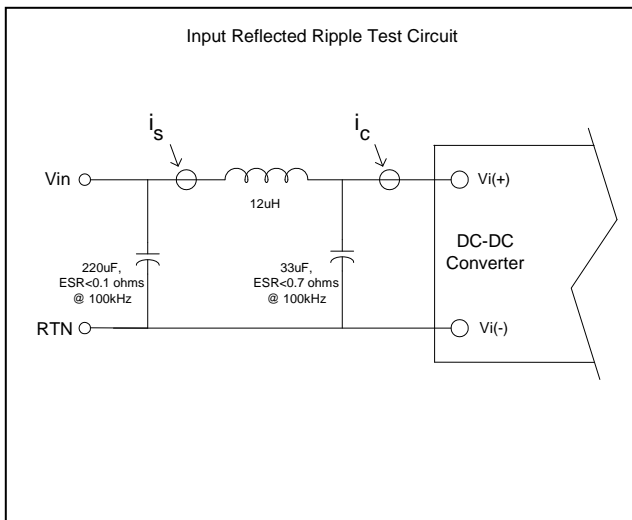

Figure 7 Test circuit used for input ripple current measurement
- (1)  $V_{in} = 48V_{dc}$ ,  $T_a = 25\text{ }^{\circ}\text{C}$ , Airflow = 200 LFM unless otherwise noted.
- (2) Input Reflected Ripple Current is specified when measured with the filter shown in Figure 7.
- (3) Output Ripple Voltage and noise is specified when measured with a 10uF tantalum and a 1uF ceramic capacitor at the converter output pins.
- (4) Transient response is specified without a capacitor at the output of the converter.
- (5) If remote sense is not required or used, the Sense(+) and Sense(-) pins must be connected to  $V_o(+)$  and  $V_o(-)$  respectively.
- (6) See 'Remote Sense' and 'Trim Feature' details regarding output voltage range limitations.
- (7) Thermal shutdown is monitored at the 'Thermal Measurement Location' (TML). See 'Mechanical Information' on page 4 for the thermal measurement location.
- (8) See 'Safety Considerations'.
- (9) De-rating curves are conducted in a controlled environment. End application testing is required to ensure the Thermal Measurement Location temperature is below the maximum specified.